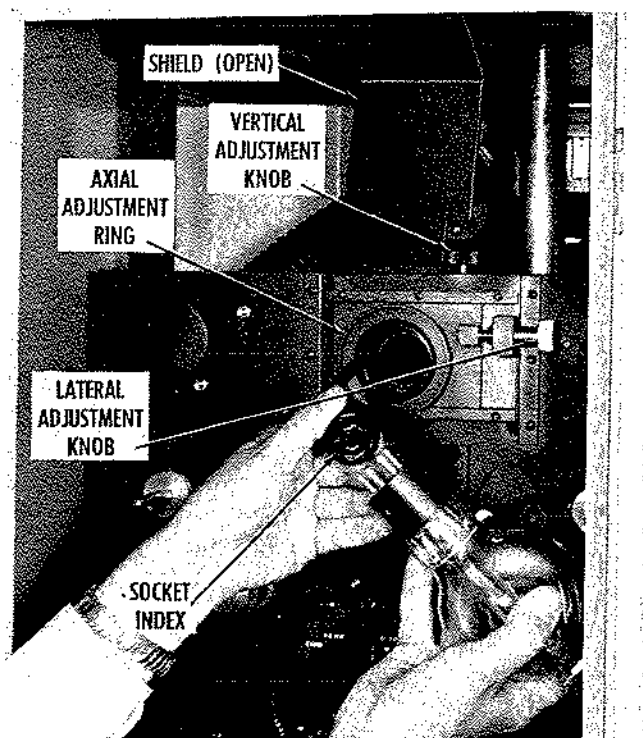

Figure 33. Projector Lamp Replacement
2. Swing up the lamp shield and withdraw the lamp with its socket and cord and unplug it (see figure 33).
8. Using the axial adjustment ring, and the lateral and vertical adjustment knobs (see figure 33), focus the light spot on the post so that it is centered and slightly larger than the hole in the top of the post.